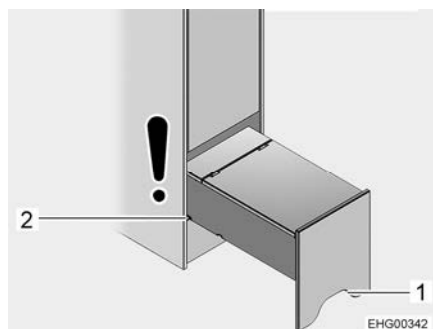

Fig. 124 Access assistance (fully pulled out)
- Grab the access assistance by the cut-out (Fig. 124,1), lift it slightly and pull it out up to the second groove (Fig. 124,2).